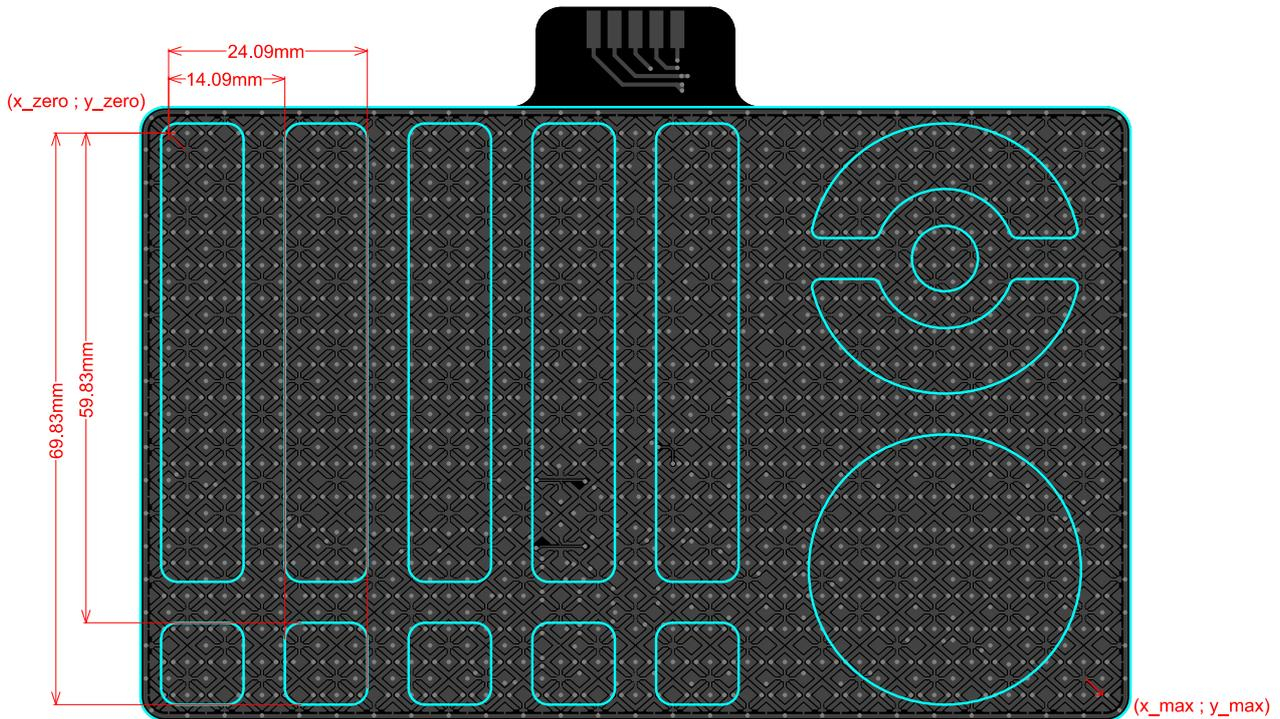

Figure 5.10: Example of Virtual Sensor Calculated Setup
Step 2: Measure the coordinates in millimeters for Virtual Button 1, as illustrated in Figure 5.10.